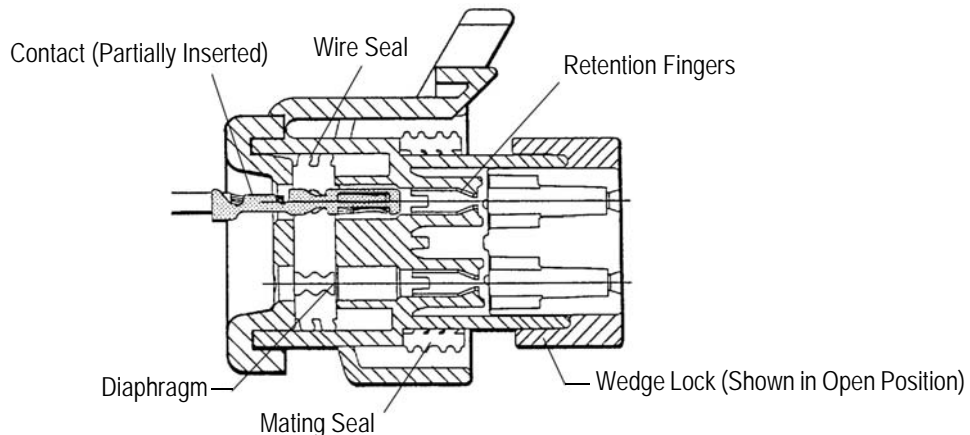

Figure 3
- Removed detail from Figure 3
Before starting assembly, the wedge lock must be in the **open**, or as-shipped, position. Refer to Figure 3.